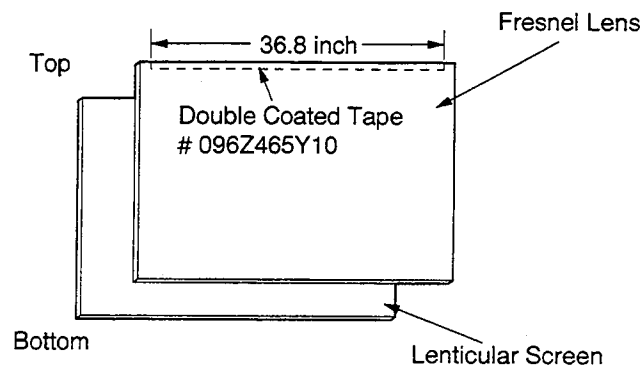

Fig. 5-2
1. Apply Double Coated Tape(# 096Z465Y10) along the top front edge of the Fresnel Lens. [Fig. 5-2]
1. Apply Double Coated Tape(# 096Z465F10) along the top front edge of the Fresnel Lens. [Fig. 5-2]